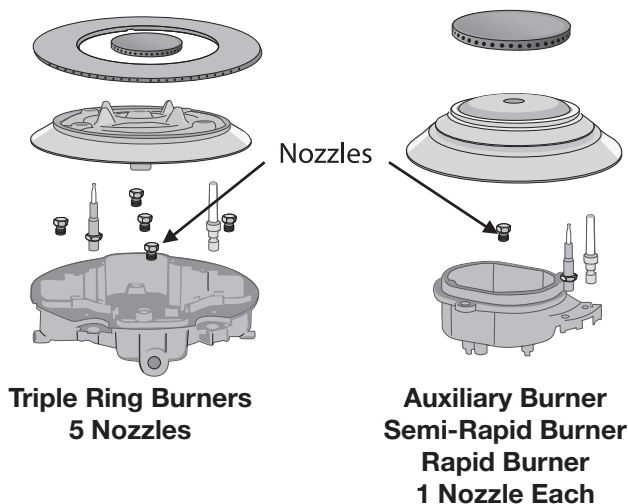

Figure 17
- 8** Install the proper nozzles in the exact locations as noted in the illustrations and the table below. (See Figures 17 and 18)